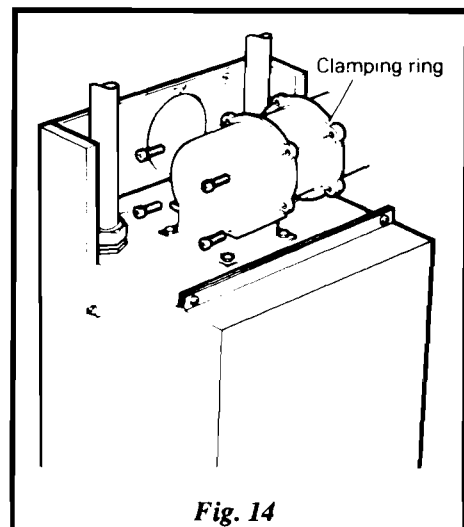

Fig. 14
14.13 Connect the flue to the boiler - see Fig. 14 (side flue).
1. Fit the two halves of the clamping ring over the air tube as shown in Fig. 14. Ensure that the flat side is facing away from the boiler, and the recessed side is against the flared part of the air tube.